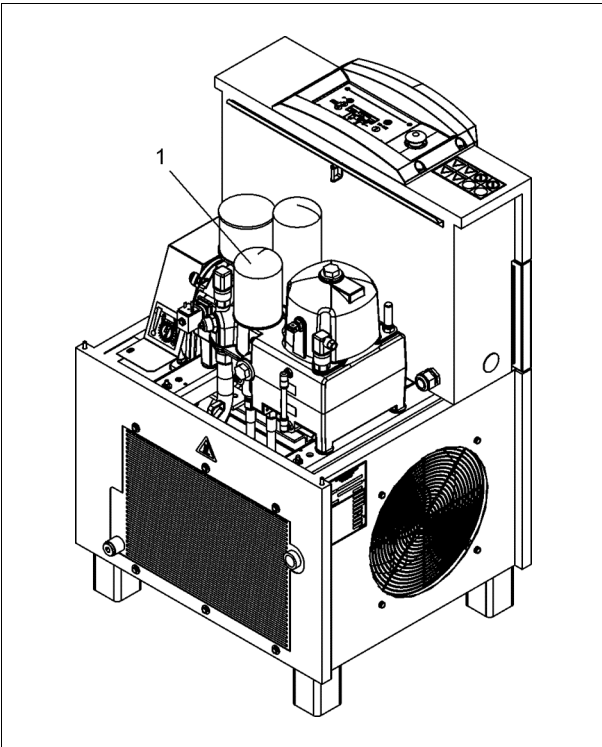

Fig. 18
- Unscrew the oil filter cartridge ( - 1 - Fig. 18) using an appropriate tool